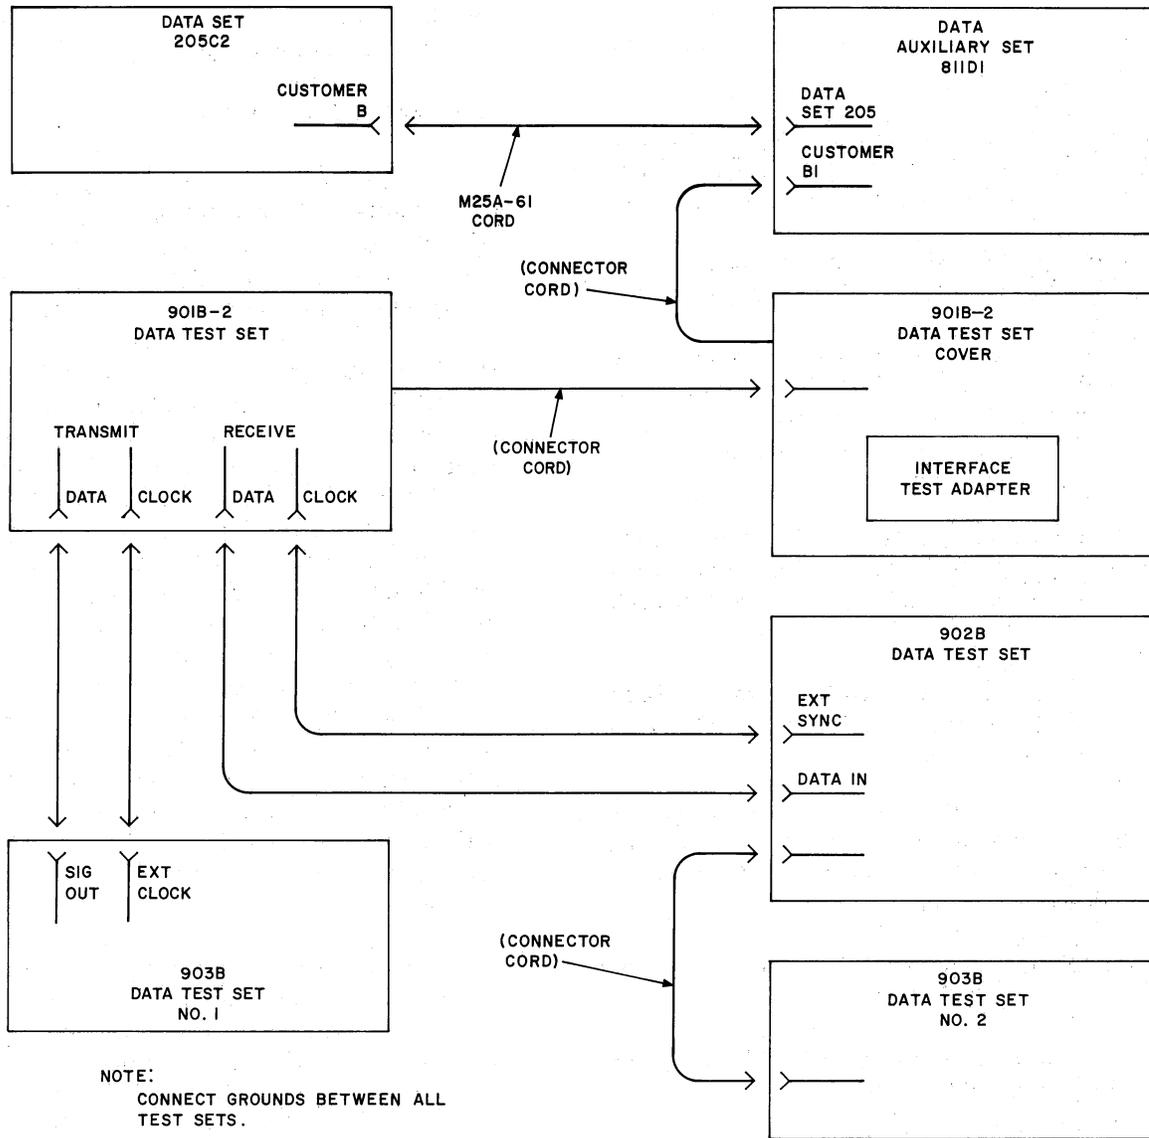

Fig. 3—Data Auxiliary Set 811D1, Test Set Connections For End-To-End Testing
3.30 Prepare the 901B-2, 902B, and two 903B test sets at both local and distant stations as follows. The sets are interconnected as shown in Fig. 3.